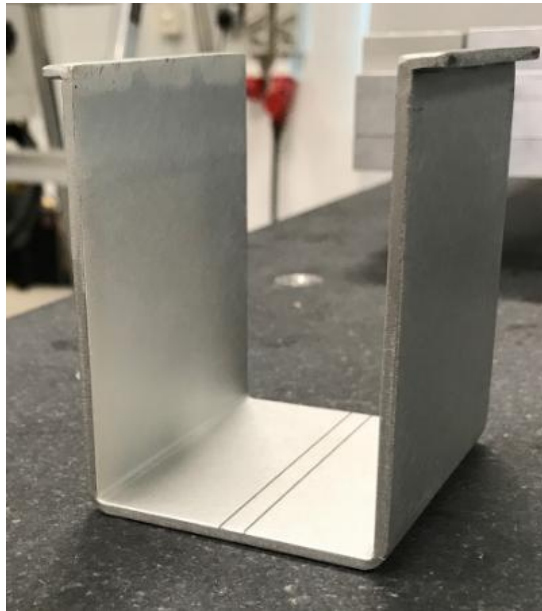

Figure 1 S2EX Panel Clear Sensor Jig
1. Prepare the latest S2EX Panel Clear Sensor Jig (PN : 4JACMM-N041-B) as shown in Figure 1